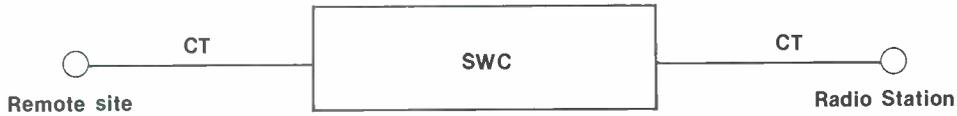

Fig. 6A. Typical intraLATA service.
operate technically as before, but with different billing mechanisms. Instead of a single, fixed rate LC charge, the line will be billed as shown in Figure 6A. The part of the circuit from the remote site to the nearest Telco "Toll" office (now known as a "Serving Wire Center"—SWC) is called a "Channel Termination" (CT). The line from this SWC to the radio station's studio is also billed as a CT. CT rates range up to almost 300 percent higher than the corresponding old LC rates, but as you can see, each intraLATA circuit is billed as *two* CT's, so actual costs for these lines will be twice that. There may also be a "Channel Mileage" (CM) charge for local circuits in which the SWC for the remote site is different from the studio's SWC, over and above the two (fixed rate) CT charges, see Fig. 6A. The air-mile distance between the two SWC's (also called "rate centers") is tacked on at "X" dollars/mile.